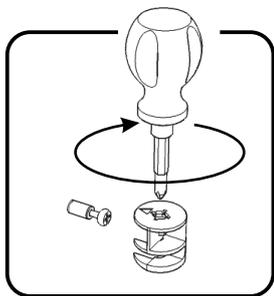

Figure 2
Attach Front Rails (D), (E) and Back Panel (H) to Side Panel (N) with Cam Locks. (See Figure 2)